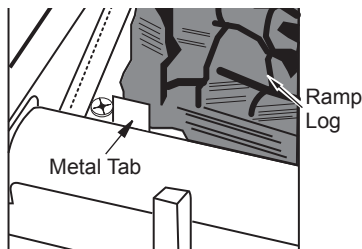
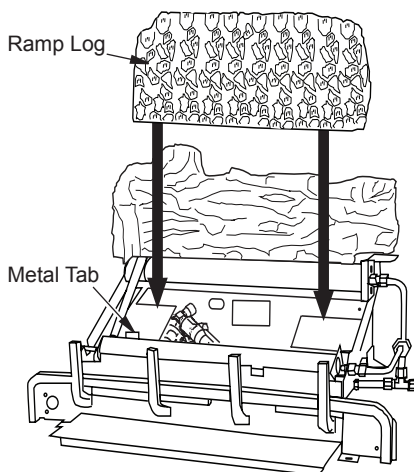

Figure 24 - Installing Log Set
Figure 29 - Installing Ramp Log
2. The log must sit flat on the black sheet metal and behind the left metal tab as shown in Figure 24.
- Place ramp log in center of base assembly as shown in Figure 29. Make sure the side marked **BOTTOM** is setting down on the base. The log will sit behind the metal base as shown in Figure 24, page 18.